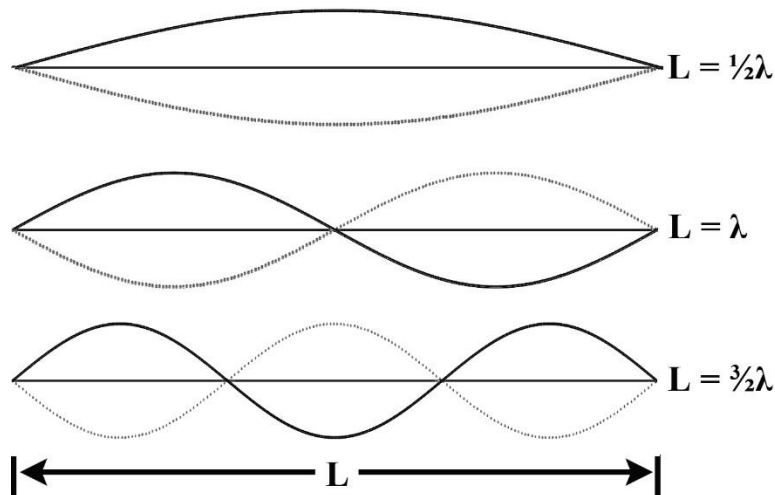

Figure 4: Modes of Vibration
A stretched string has many natural modes of vibration (three examples are shown in Figure 4 above). If the string is fixed at both ends then there must be a corresponding node at each end where the string is stationary. It may vibrate as a single segment, in which case the length (L) of the string is equal to $1/2$ the wavelength (λ) of the wave. It may also vibrate in two segments with a node at each end and one node in the middle; then the wavelength is equal to the length of the string. It may also vibrate with a larger integer number of segments. In every case, the length of the string equals some integer number of half wavelengths. If you drive a stretched string at an arbitrary frequency, you will probably not see any particular mode; many modes will be mixed together. But, if the tension and the string's length are correctly adjusted to the frequency of the driving vibrator, one vibrational mode will occur at a much greater amplitude than the other modes.
In the second part, we hold the frequency constant and vary the tension (Figure 4) to get standing waves with different numbers of segments, so different values of λ . Plotting F versus λ^2 should give a straight line with slope μf^2 .